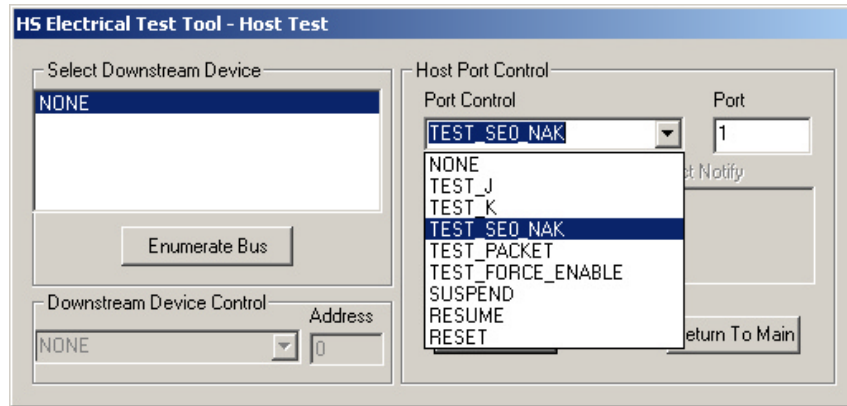

Figure 31. Host Port TEST_SE0_NAK
9. On the Host Test menu, select TEST_SE0_NAK from the Port Control drop-down menu. (Figure 31)